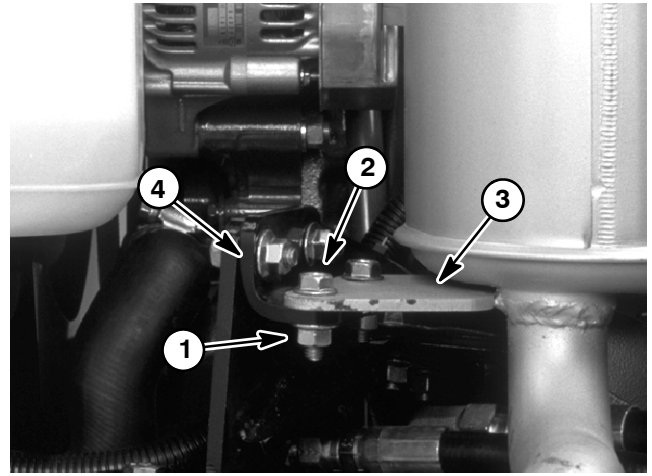

Figure 2
4. Remove both flange head nuts and screws securing the muffler plate to the muffler bracket (Fig. 2).
3. Position muffler plate to the muffler bracket with both flange head screws and nuts (Fig. 2).